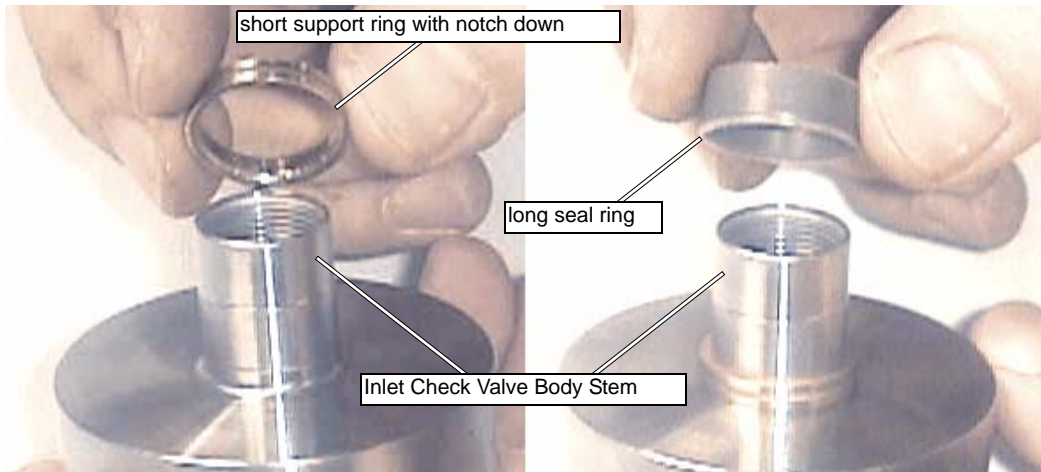

Figure 5-27: Installing the Short Support Ring
8. Next, begin assembling the inlet side of the Check Valve Body Assembly. This is the side with the threaded pocket and two holes (Figure 5-27).
10. Install the Long Seal Ring over the outside of the Stem (Figure 5-27).